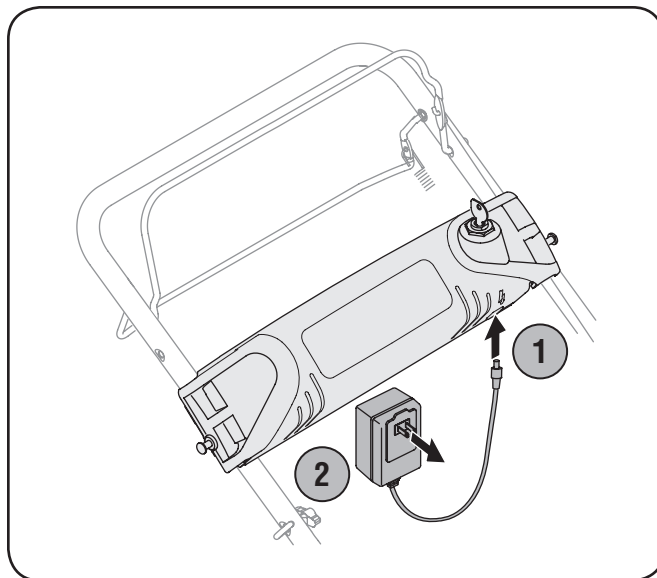

Figure 7-7
1. Plug the battery charger into the port on the underside of the battery housing. See Fig. 7-7.